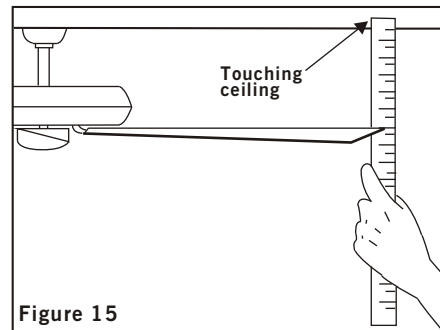

Figure 15
2. Most fan wobble problems are caused when blade levels are unequal. Check this level by selecting a point on the ceiling above the tip of one of the blades. Measure this distance as shown in Figure 15. Rotate the fan until the next blade is positioned for measurement. Repeat for each blade. The distance should be equal within 1/8".